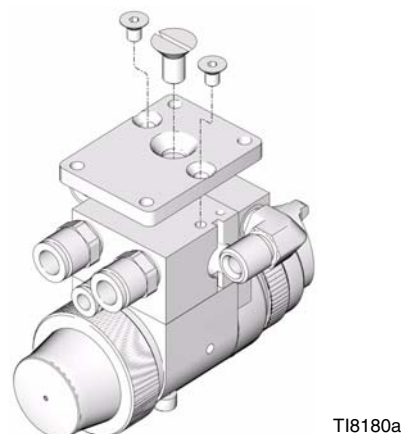

FIG. 7: Retrofit Adapter Plate Mount
1. Mount adapter plate to manifold using the three screws provided with the kit (FIG. 7).